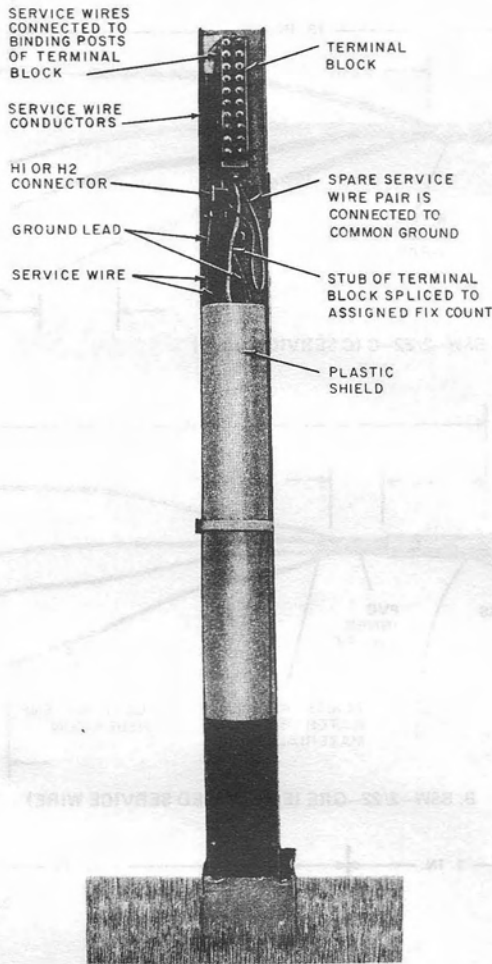

Fig. 37—Service Wire Terminated in RC4/72 Cable Closure
6.13 Terminate the service wire to the assigned binding post of the terminal block as shown in Fig. 37.